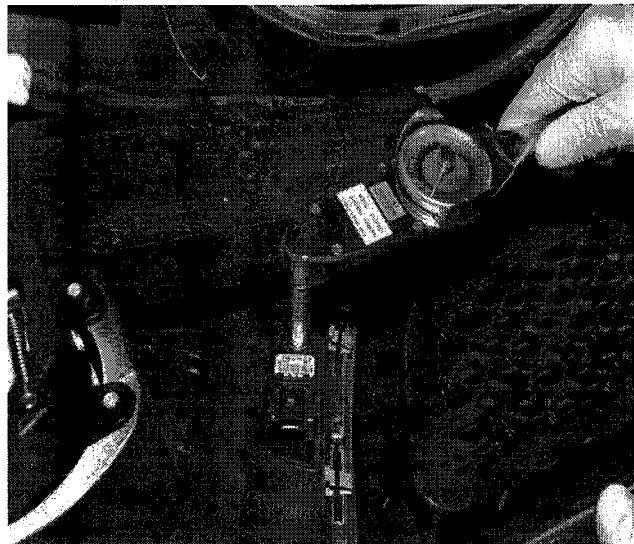

Fig. 13 Safety Sensor Installation
22. Fasten sensors to each brackets using supplied nuts. Torque to 5+/- 0.5 Nm (Fig. 13).